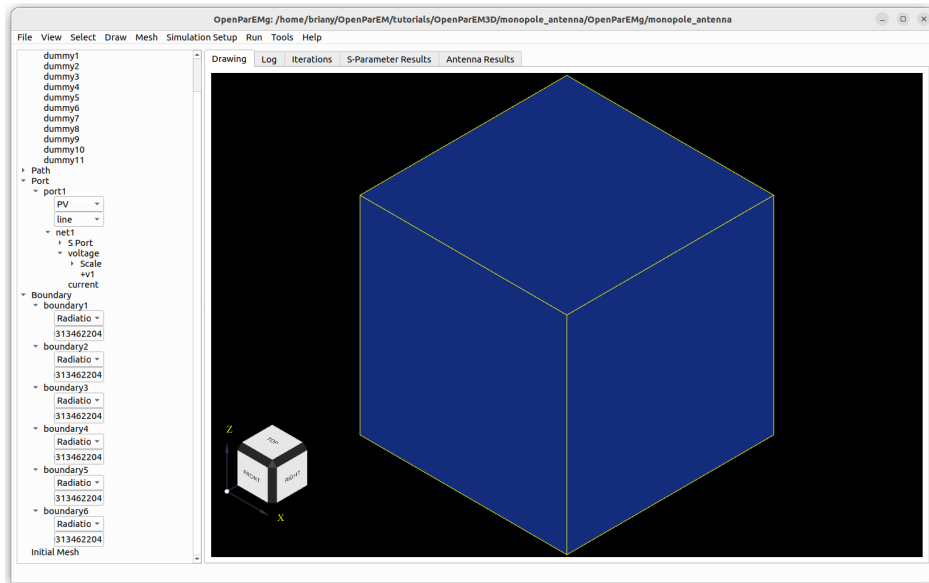

Figure 18: View with adiation boundaries applied.
- When complete, a size-sided blue cube should be visible that hides all interior detail as shown in Fig. 18.